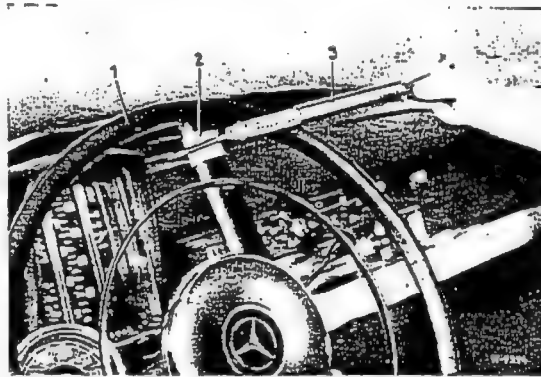

Fig. 46-23/2
2. Hook the spring scale (3) over one of the two steering wheel spokes and turn the wheel while holding the gage at an angle of 90° (Fig. 46-23/2).